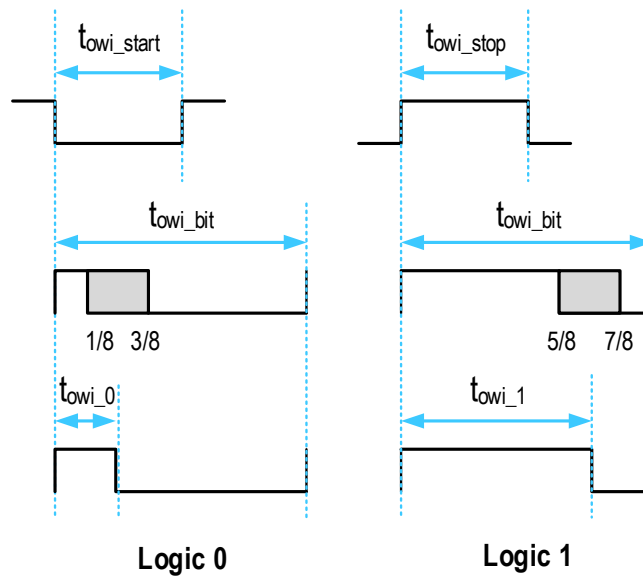

Figure 3. OWI Bit Timing Parameters
Figure 3 shows the timing parameters of the OWI protocol. The values are specified in section 3.
1. See section 2.3.1 and Figure 3 for further information.